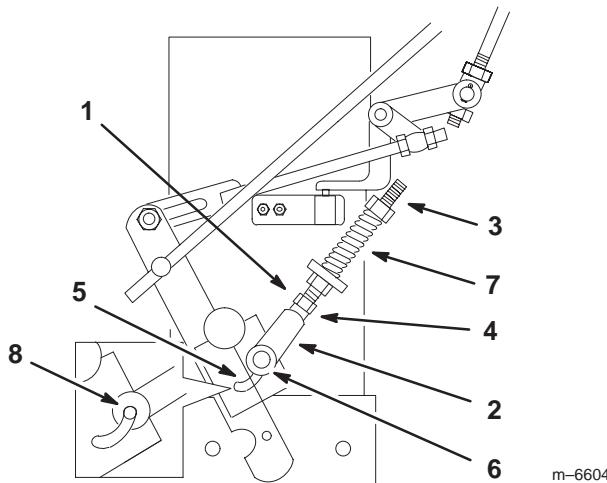

Figure 50
3. Adjust the left and right neutral stud until the clevis pin in the yoke touches the back end of the slot in the control arm (Fig. 50).
7. Loosen the nut against the yoke (Fig. 50).